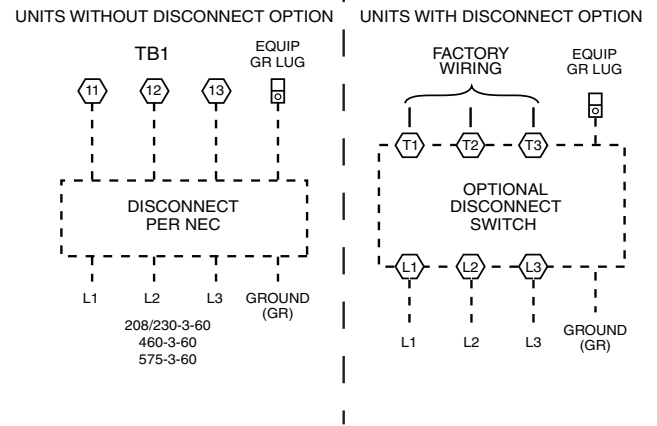

Fig. 38 — Power Wiring Connections
Size wire based on MCA (Minimum Circuit Amps) on the unit informative plate. See Fig. 38 for power wiring connections to the unit power terminal block and equipment ground. Maximum wire size is 2/0 AWG per pole.
3. Install power lines to terminal connections as shown in Fig. 38.